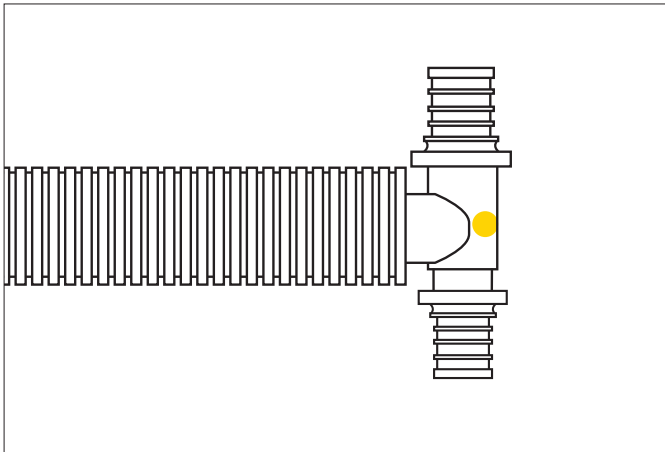

Fig. A2-6 Push RAUGUARD all the way against the fitting
- Feed RAUGUARD completely onto the carrier pipe making sure the far end fully covers the compression sleeve as shown in Figure A2-6.